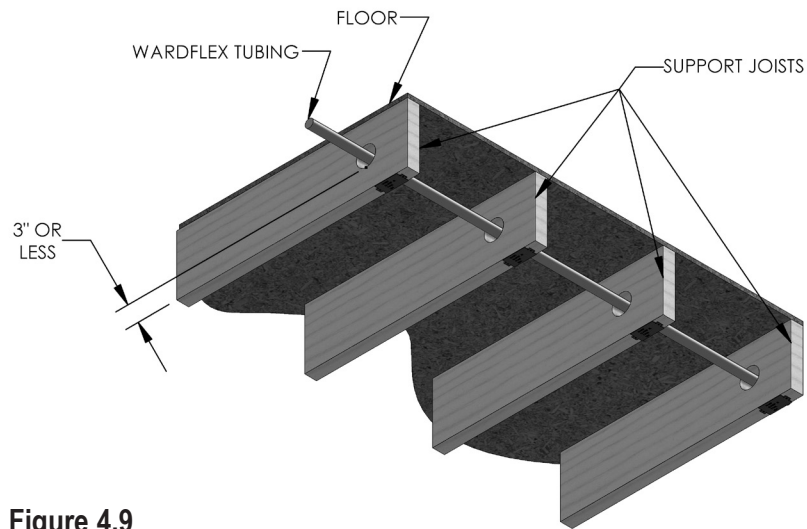

Figure 4.9
- E. Should an unfinished ceiling (i.e. basement) be covered at a later date, the quarter striker plates, shown in figure 4.9 and 4.10, should be replaced with appropriate protection devices that provide adequate protection for potential penetration threats.
- F. Although figures 4.9 and 4.10 are acceptable, installation method 4.11 is preferred.